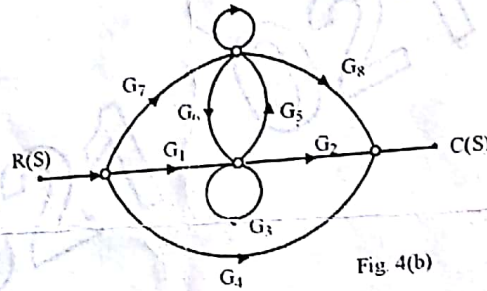

Fig 4(b)
- b) Determine transfer function  $C(s) / R(s)$  of signal flow graph show in fig. 4 (b) using Mason's gain formula. 8